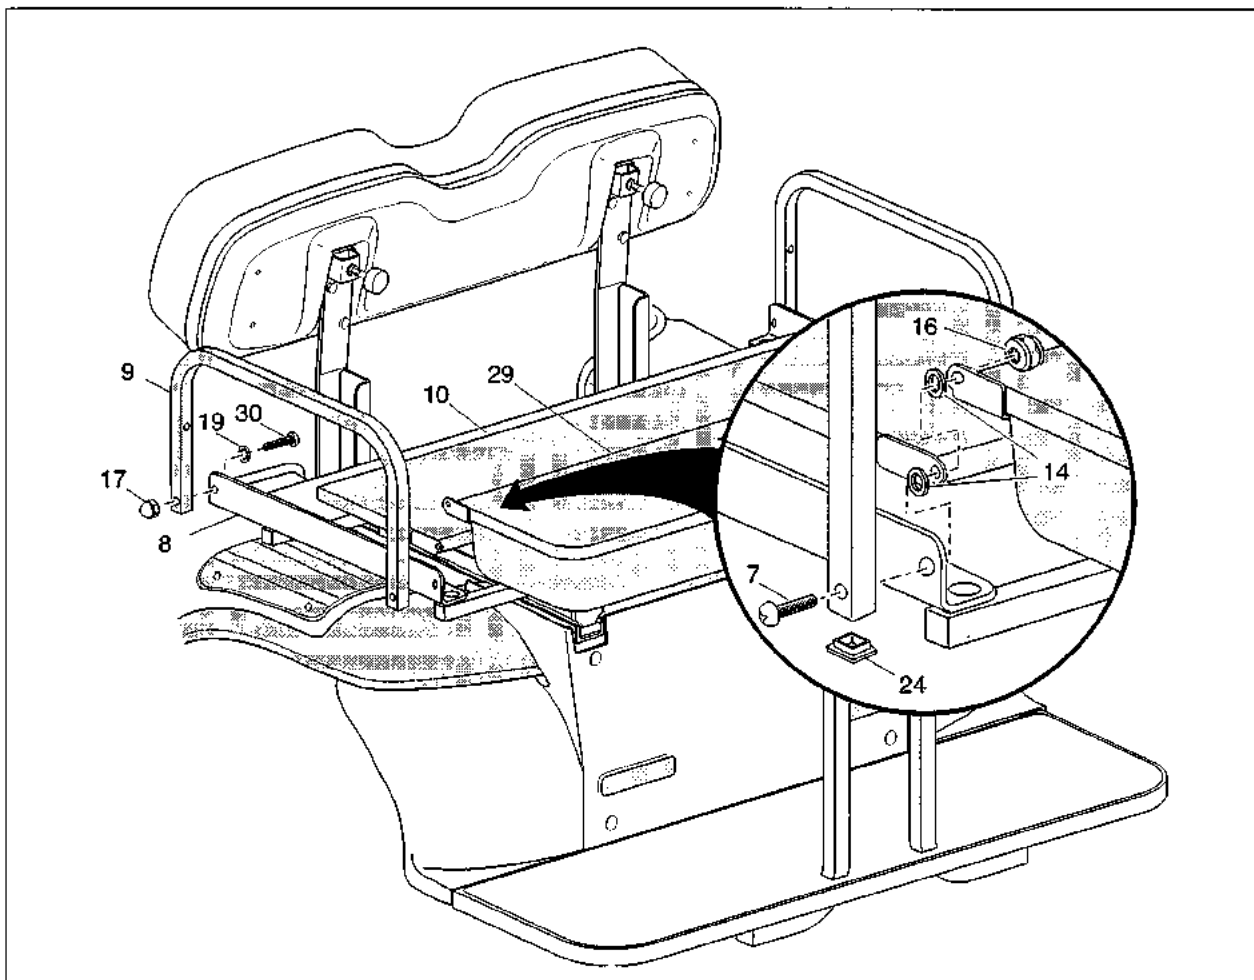

Fig. 4
1. Attach fixed bed (item 12) to support frame (item 8) using bolt (item 27) and washer (item 18). (Two places on each end of front bed. Tighten to 5 - 7 ft. lbs. torque.
E. INSTALLING HANDRAIL (Refer to Fig. 4)
1. Insert end plug (item 24) in each end of handrail (item 9).
2. Attach handrail at forward end of support frame (item 8) using bolt (item 30), lock washer (item 19) and acorn nut (item 17). Do not tighten hardware at this time.
F. INSTALLING LOAD BED AND SEAT BOTTOM (Refer to Fig. 4)
1. Position load bed (item 10) in support frame as shown.
2. Position seat bottom (item 29) in support frame as shown.
3. Insert teflon washer (item 14) between support frame and load bed and again between load bed and seat bottom as shown.
4. Secure all components by inserting bolt (item 7) through handrail, support frame, washer, bed assembly, washer and seat bottom and secure with lock nut (item 16). Tighten all handrail hardware to 12 - 14 ft. lbs. torque.